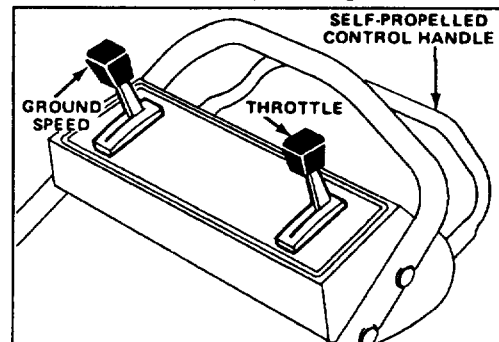

Figure 6
1. **CONTROLS**—Throttle, ground speed control and blade/self-propelled control bar are on upper handle (Fig. 6). Recoil starter is on top of engine.
5. STOPPING (Fig. 6)—Release control bar to stop blade and traction drive. Move ground speed control to "N". To stop engine, move throttle to OFF. Pull wire off spark plug if mower is unattended or not used.